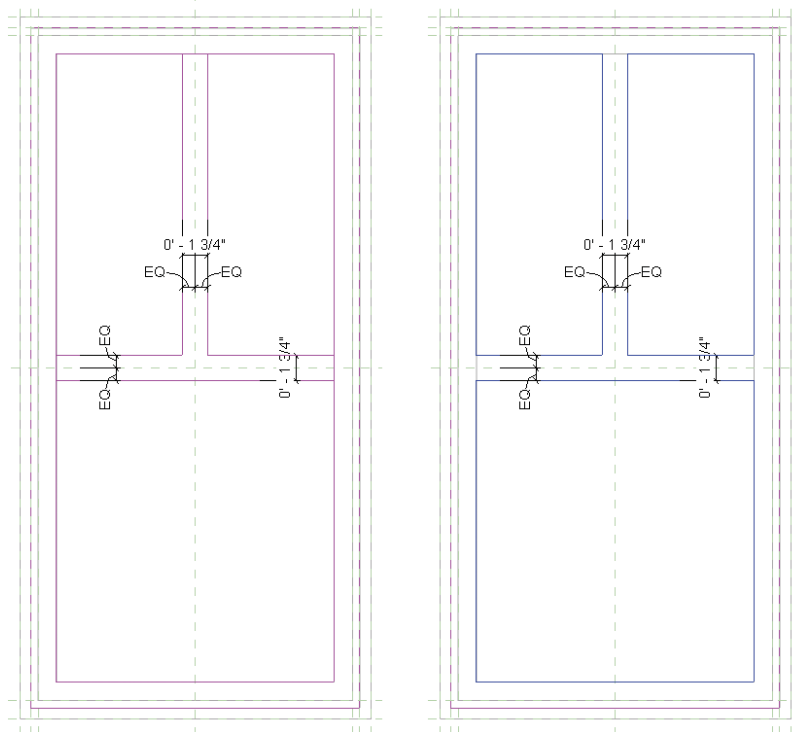

FIGURE 6.24 Edit the existing window frame.
8. Sketch new internal lines, as shown in Figure 6.24, to split the window into three panels. Before you finish the sketch, delete the sketch segments between the new lines (for example, by using the Split tool with the Delete Inner Segment option checked from the Options Bar). When complete, the sketch should look like the blue highlighted area in Figure 6.24.